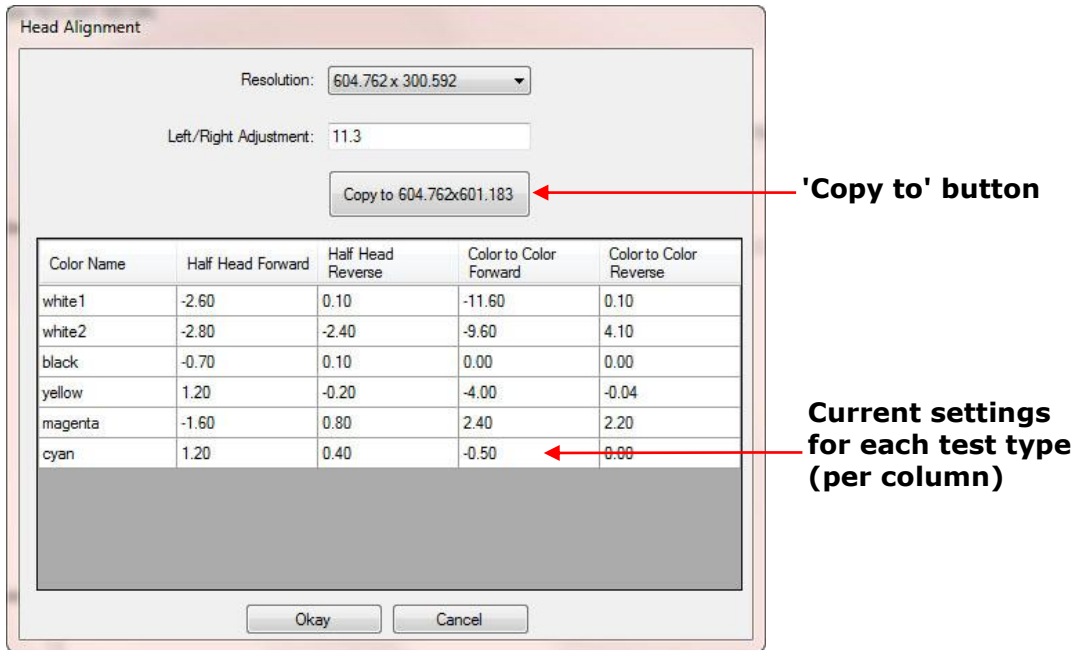

Figure 14: Head alignment table
All the software settings must be placed in the head alignment table on the T1000 control panel, shown in Figure 14. This panel is accessed by using the **Setup>Align Heads** menu pull down. When this panel is visible, select the proper resolution for the alignment being performed:
2. Inspect the half head target, select the line that is the "sharpest". Read the value of this color, and add the value to the current setting shown in the head alignment table (Figure 14).
3. When you have verified that all the 6 x 3 Half Head (forward and reverse), Color to Color (forward and reverse) and Bidirectional (left and right) alignments are correct, press the **Copy to 600x600** button, shown in Figure 14. This copies all the newly verified alignments to the 600 x 600 alignments.
3. When you have verified that the 12 x 3 Half Head (forward and reverse, Color to Color (forward and reverse) and Bidirectional (left and right) alignments are correct, press the **Copy to 1200 x 900** button, shown in Figure 14. This will copy all the newly verified alignments to the 1200 x 900 alignments.